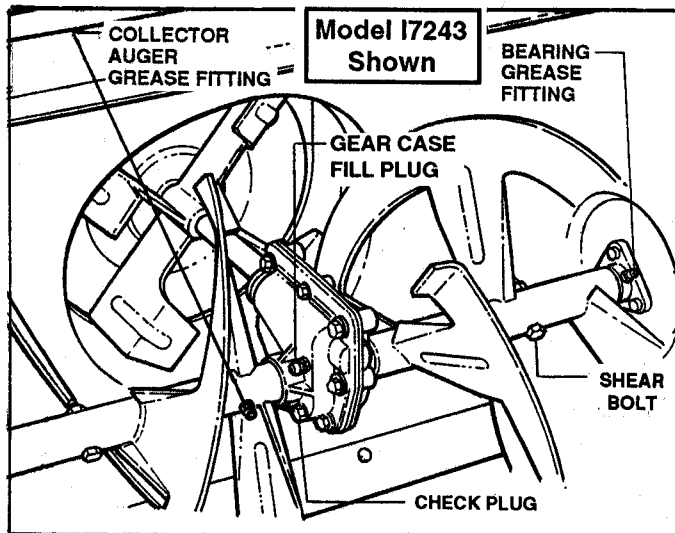

FIGURE 3.1
Refer to the Engine Owner's Manual for lubrication requirements on the engine powering your Snow Thrower. Your Snow Thrower Unit (Model I7243 Only) has (4) grease fittings, two (2) on the augers, two (2) on the auger shaft bearings, as shown in Figure 3.1. Service these and the other general lube points as follows:
AUGER LUBRICATION: ONE EACH YEAR, preferably at the end of the winter season, remove the two (2) shear bolts, apply grease to the fittings, then spin the auger to work the grease out along the auger shaft. Continue greasing and spinning augers until grease appears at both ends of each auger tube. Reinstall shear bolts and nuts after servicing. This procedure will prevent the auger shaft from rusting to the auger tube. Refer to Figure 3.1.
BEARING LUBE: On I7243 Models, ONCE EACH YEAR, apply one or two shots of grease from gun to the bearing grease fittings located at the ends of the auger shaft, just inside blower housings (On I4223, I6223 Models, bearings are self-lubricating). Refer to Figure 3.1.
If a squeeze tube of BENALENE 900™ (Part No. 2-9577) is used, unscrew grease plug and apply through hole until grease is visible from check hole. Reinstall fill plug and check plug. Refer to Figure 3.1.